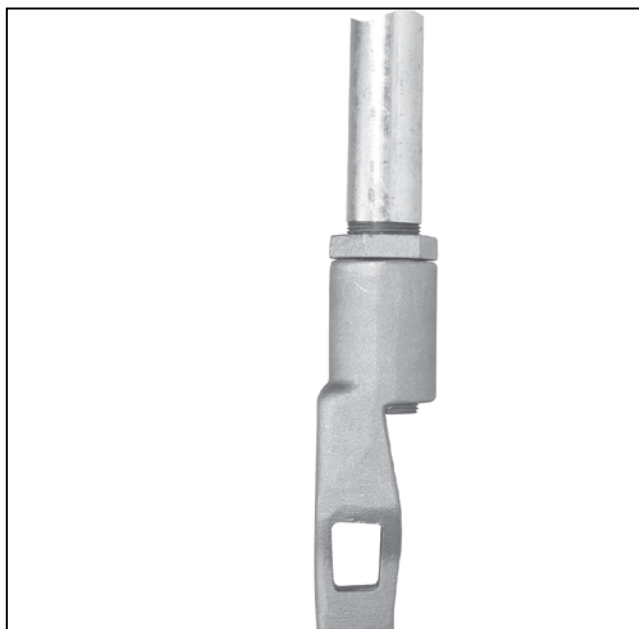

Figure 23. Installing lowest operating pipe section into operating handle assembly.
STEP 21. Install the lowest vertical operating-pipe section by threading one end of the pipe into the coupling on the operating handle assembly. Approximately ¼ inch (6 mm) of thread should extend through the coupling. Tighten the lock-nut. See Figure 23.